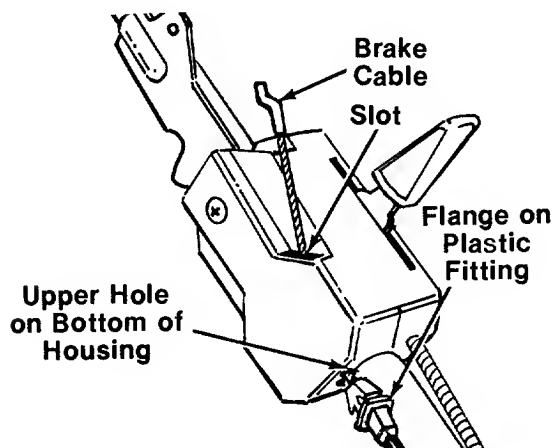

FIGURE 6.
8. The brake cable is attached to the engine. Route the brake cable under the lower handle. Place the end of the brake cable into the upper hole on the bottom of the control housing, and through the slot in the side of the housing as shown in figure 6. The angle of the flange on the plastic fitting must be positioned downward as shown. Be careful not to bend or kink the cable.